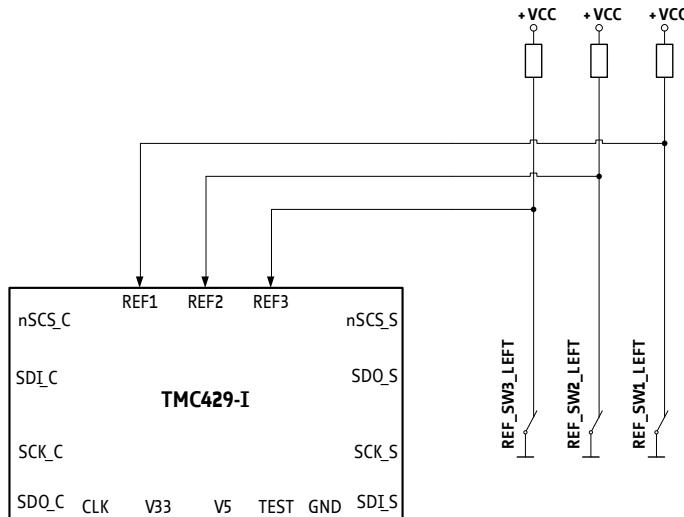
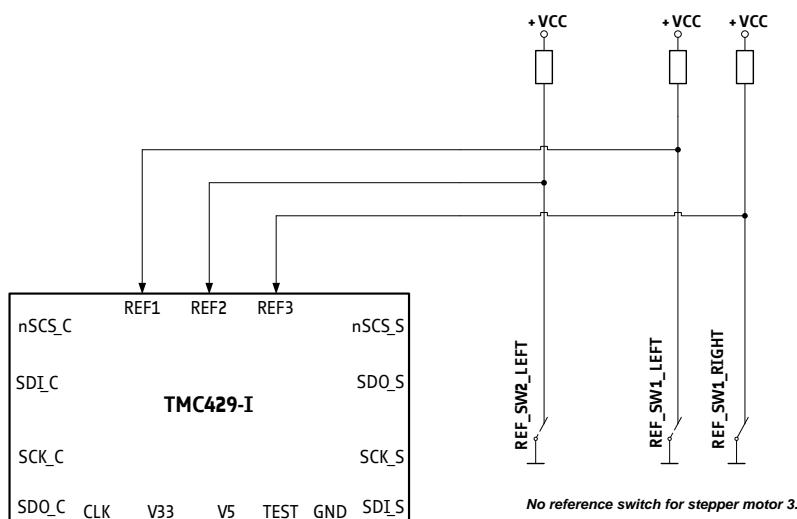

Figure 9.2 Reference switch configuration *left-side-only* for *mot1r=0* (and *refmux=0*)
Figure 9.3 Reference switch configuration *two-one-zero* for *mot1r=1* (and *refmux=0*)
- After power-on-reset, the default setting (*refmux*=0 and *mot1r*=0) selects the basic single reference switch configuration as outlined in Figure 9.2.
The TMC429-I offers three reference switch inputs, which can be used *left-side-only* or two-one-zero as shown in Figure 9.2 and in Figure 9.3.
If *mot1r* is set to 1 the input REF1 is also associated with the left reference switch of stepper motor #1. REF2 is also associated to the left reference switch of stepper motor #2. But, the input REF3 is associated to the *right reference switch* of stepper motor #1 and no reference switch input is associated to stepper motor number#3 (see Figure 9.3)